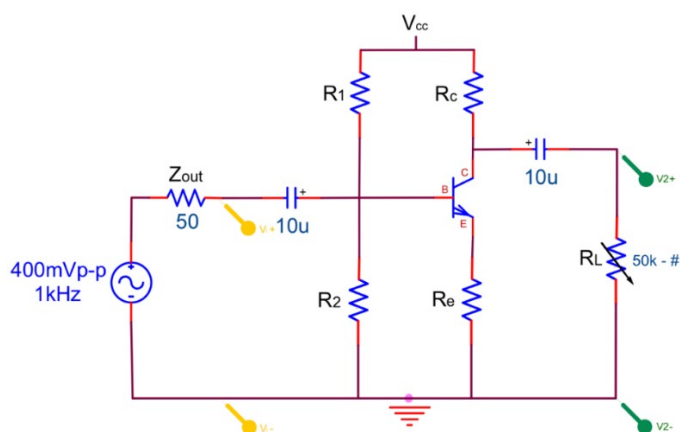

Figure 6.8
6. Remove the series resistance and reconnect the signal generator directly to the amplifier input. Remove the 50KΩ resistor from the amplifier output. Measure and record the amplifier output voltage. This is v_1 . Place decreasing resistor values, starting at 50KΩ across the amplifier output (see Figure 6.8) until the output voltage drops to approximately one half v_1 . This output voltage is v_2 . Use the following equation to calculate the output impedance of the amplifier: